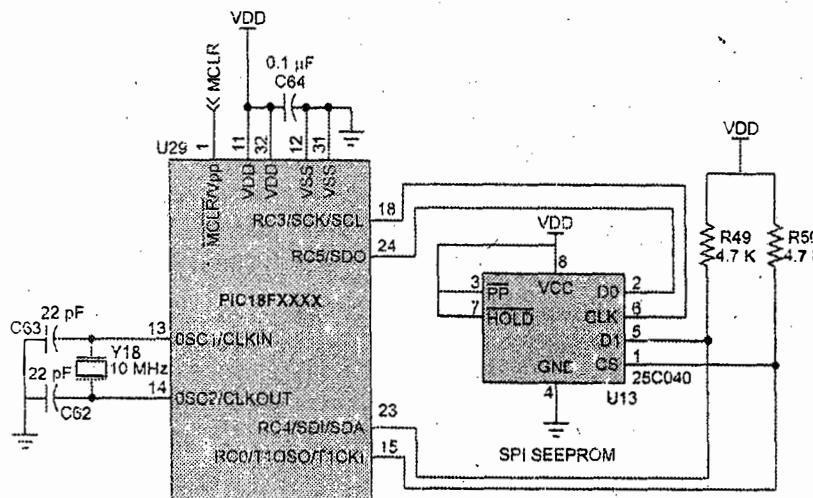

Fig. Q.19.1 EEPROM interface with PIC18FXXXX
- Four numbers of EEPROM lines are controlled by SPI Enabled drivers. The SPI Lines Chip Select of CS (PORTC.0), serial clock of CLK (PORTC.3), serial input data of MISO (PORTC.4) and serial output data of MOSI (PORTC.5) connected to the SPI based serial EEPROM IC. The EEPROM read & write operations are done in PIC 18F interface by using these CS, CLK, MOSI, MISO SPI lines. As shown in Fig. Q.19.1